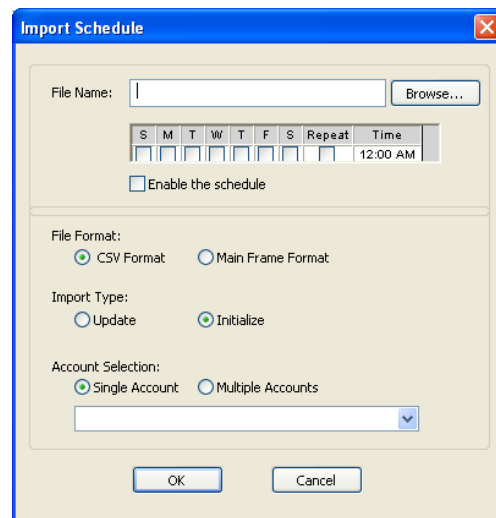

Figure 71
- 3a. If you selected SCHEDULED IMPORT in step 2, click the days of the week and enter the time that you want the import to be performed (Fig 71). Check the REPEAT square if the schedule is to repeat on a weekly basis. You must also check the Enable Schedule box to initiate the schedule that you created.